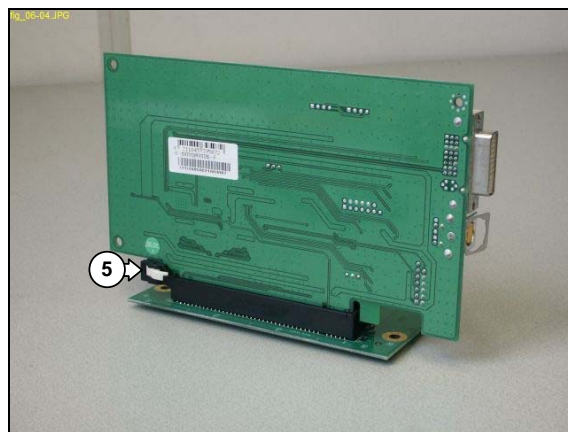

Figure 12.6-4
8. Push the locking tab arm (5) on the PCI-E connector to release the graphic card. See Figure 12.6-4.